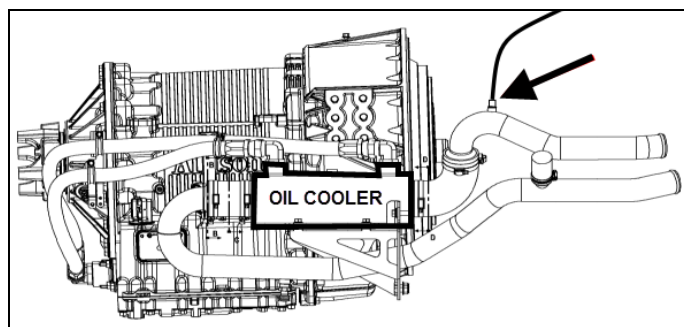

FIGURE 5: AIR PURGE LINE
4. Disconnect the transmission oil cooler air purge line at the coolant pipe near the oil cooler (see FIGURE 5). Discard the air purge line. Put Loctite 567 thread sealant on ¼ hex socket plug (#501800) and then screw the plug to the coolant pipe fitting.